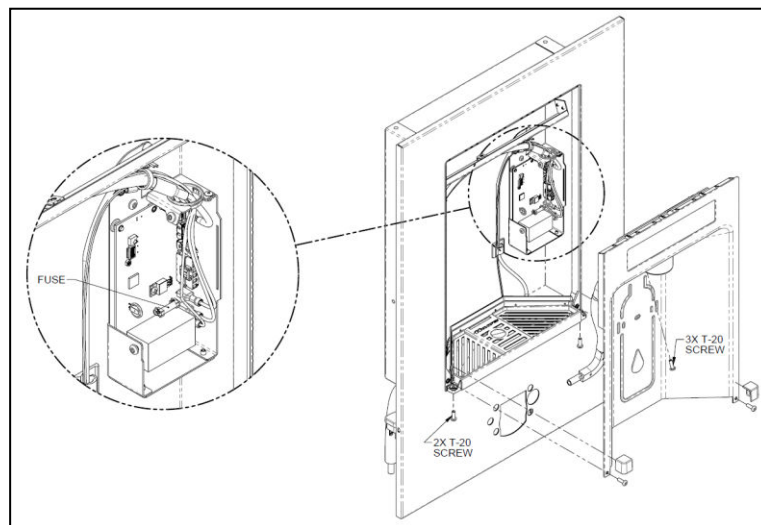

Figure 3 Fuse Replacement on Main Board, Behind Bottle Filler Alcove
- Remove (2) T20 Torx screws underneath the molded corner covers on both the left and right side of the bottle filler platform. See Figure 3. NOTE: for 1109/1119 models, fountains must be removed to access these screws.
- Remove (2) T20 Torx screws behind molded corner covers and (1) T20 Torx screw behind bottle filler nozzle.
- Remove (2) T20 Torx panel screws securing main board cover.
- Replace fuse according to the following table. (2) Spare Fuses are included inside bottle filler enclosure. Make sure fuse is centered in clips before pressing into place.